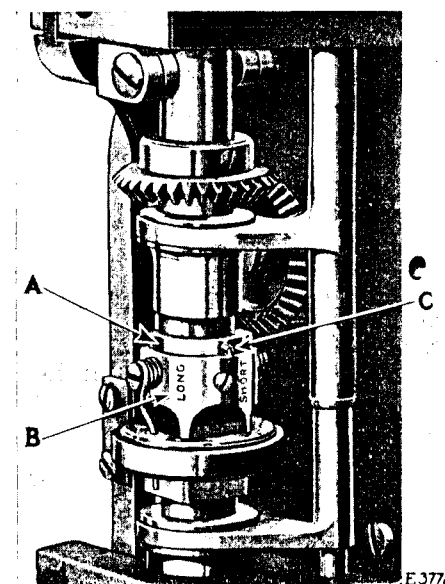

FIG. 29. STITCH REGULATOR
The length of stitch is regulated by means of the eccentric stitch adjusting collar (A, Fig. 29). To shorten the stitch, turn
the handle (A, Fig. 5, page 5) to the right, then grasp the stud (C, Fig. 29) and turn the eccentric collar (A) toward you or around to the right in the direction of the word "short" stamped on the feed lever bracket (B, Fig. 29). To increase the length of stitch, turn the eccentric collar (A) away from you or around to the left in the direction of the word "long" stamped on the feed lever bracket. Never move the stud (C) beyond the words "short" or "long" stamped on the feed lever bracket.